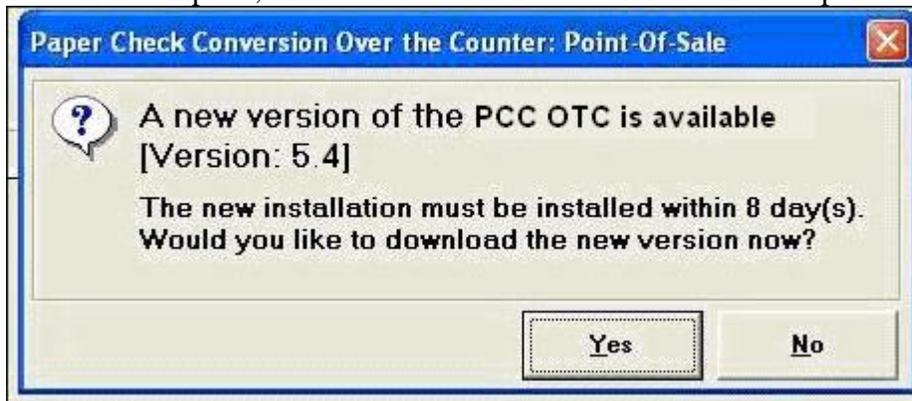

Figure 2.4.4
2. When complete, click **'Close'**. The New Version window opens as displayed in Figure 2.4.4.